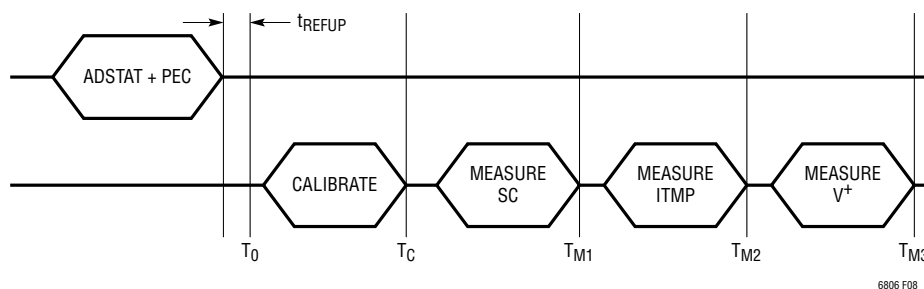

Figure 8. Timing for ADSTAT Command Measuring SC, ITMP, V+
The ADSTAT command is a diagnostic command that measures the following internal device parameters: sum of cells (SC), internal die temperature (ITMP), and the  $V^+$  power supply pin ( $V^+$ ). These parameters are described in the section below. All the 4 ADC modes described earlier are available for these conversions. See the section on Commands for the ADSTAT command format. Figure 8 illustrates the timing of the ADSTAT command measuring all the three internal device parameters. Table 13 shows the conversion time of the ADSTAT command measuring all the three internal parameters.